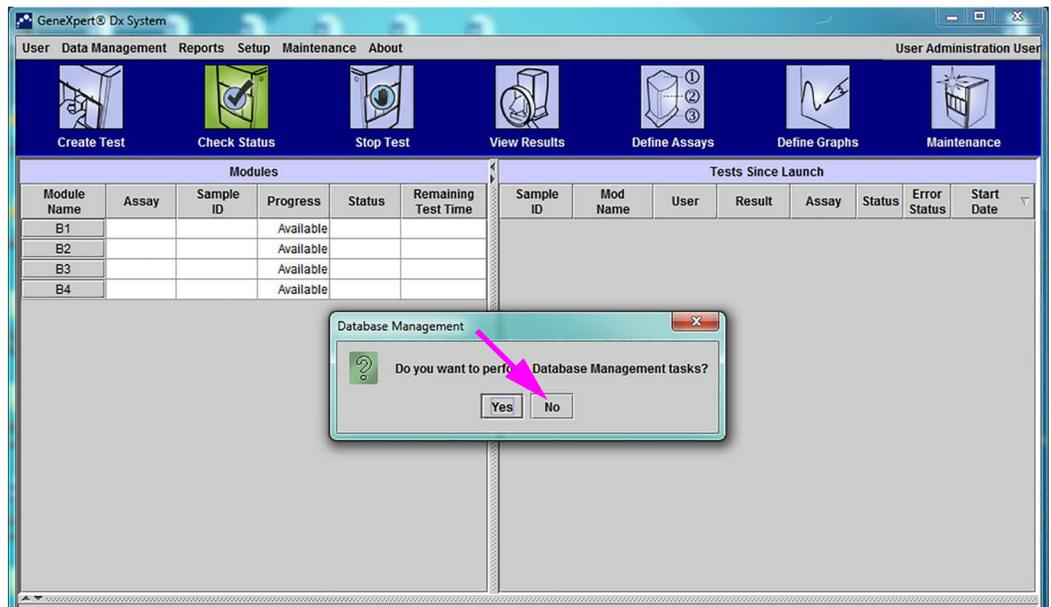

Figure 2-53. GeneXpert Dx System Window with Database Management Dialog Box Overlay
1. In the Assign Instrument Dialog box, click **OK** to acknowledge the assignment of the instrument letter(s), which closes the dialog box. The Database Management dialog box appears (see Figure 2-53).